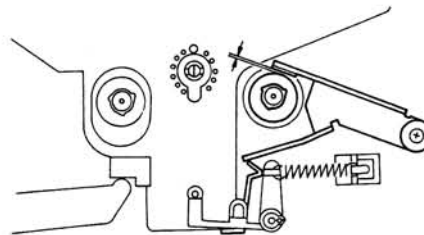
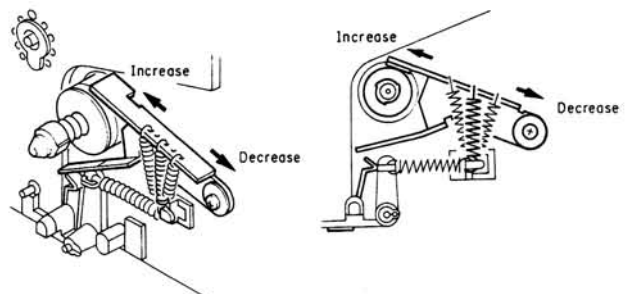

Fig. 2.14
Fig. 2.15
- (4) Set the cassette deck in Stop mode, and remove the Tension Arm Adjustment Cassette (DA09056B), then set the cassette deck in Cue mode. In Cue mode, check to insure that the gap is found between the Supply Reel Hub B Ass'y and the Felt of Back Tension Ass'y as shown in Fig. 2.14.
- (5) Load the Back Tension Gauge (DA09055B) in the cassette deck.
- (6) Set the cassette deck in Play mode and read the torque value of Back Tension Gauge. If the value is in a range of 5 g-cm to 9 g-cm, adjustment is not necessary. If not, change the installation point of the Back Tension Spring as shown in Fig. 2.15, and obtain the torque of 6 g-cm to 8 g-cm range.